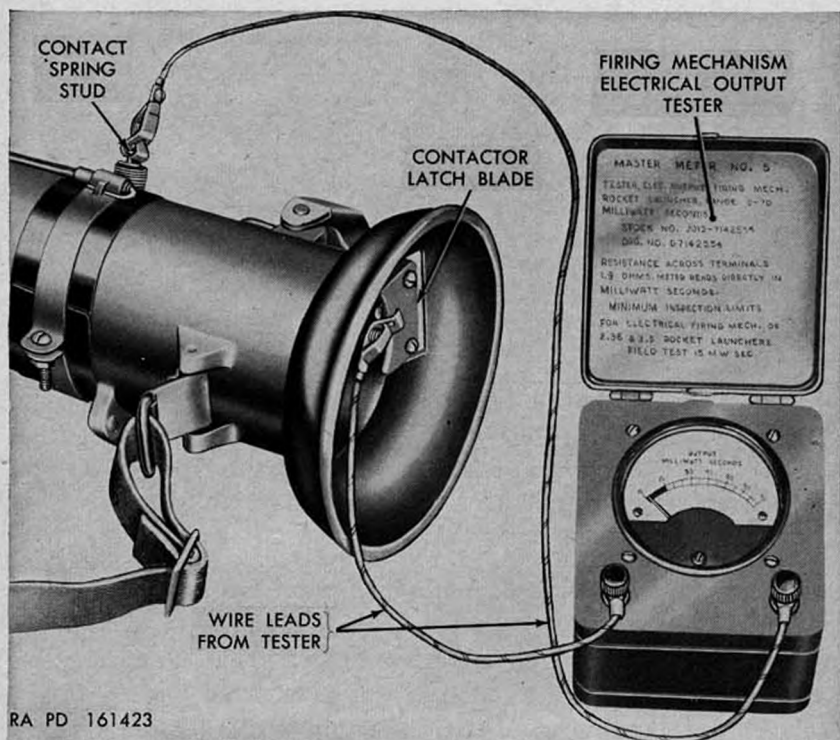

Figure 54. Testing electrical circuit of completely assembled rocket launcher.
a. Clip one wire lead of tester to blade of contactor latch housing. Clip the other wire lead of tester to contact spring stud (fig. 54), located near the rear of tube.